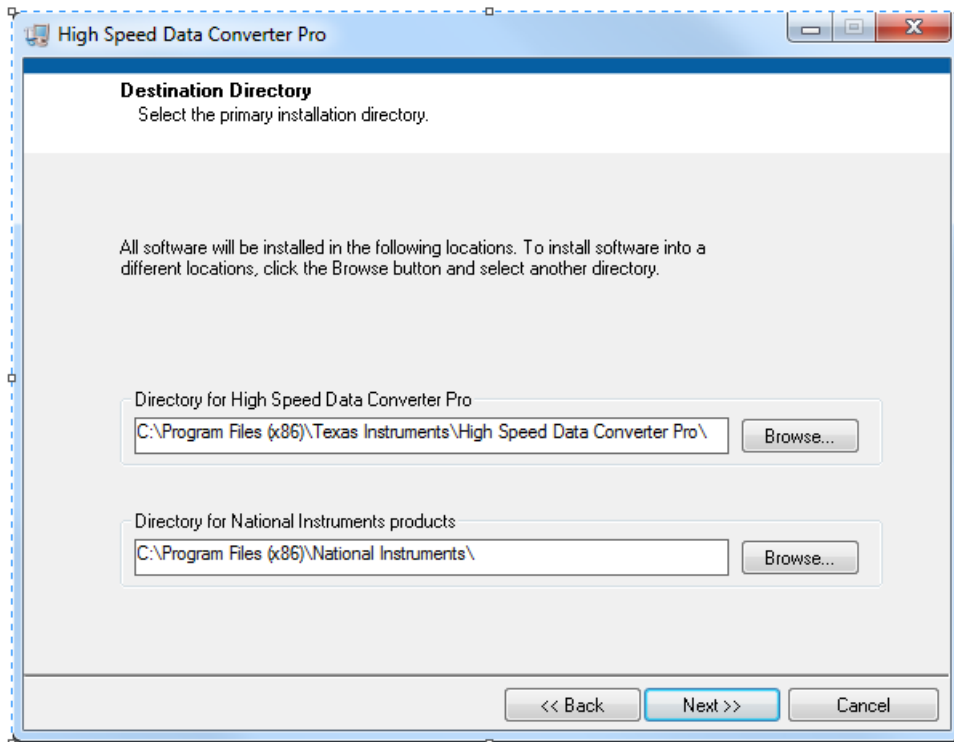

Figure 3. HSDCpro Install (b)
- Set the destination directories, or leave as default, for the TSW1400 GUI installation and press the *Next* button as shown in Figure 3.